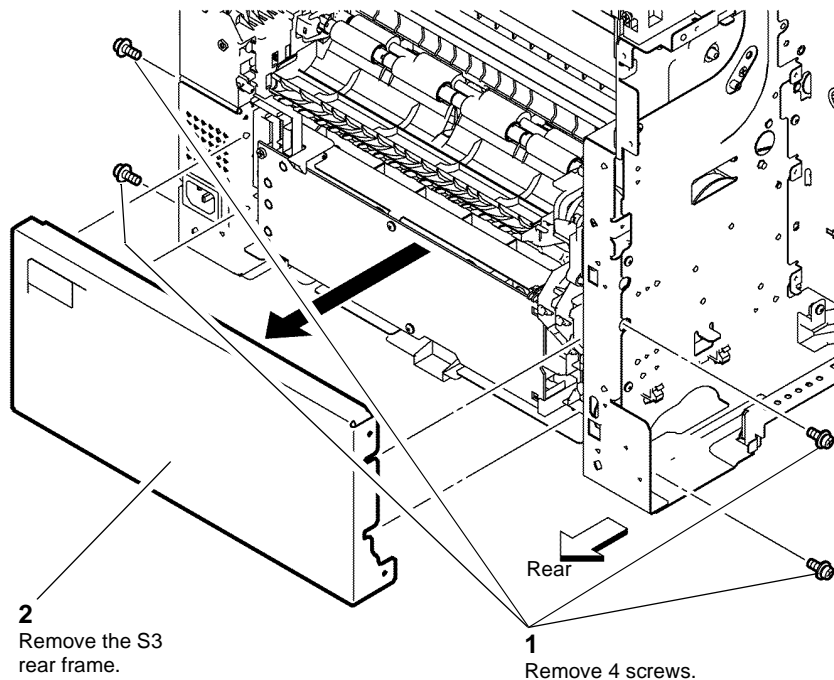

Figure 1 S3 rear frame
4. Remove the S3 rear frame, Figure 1.